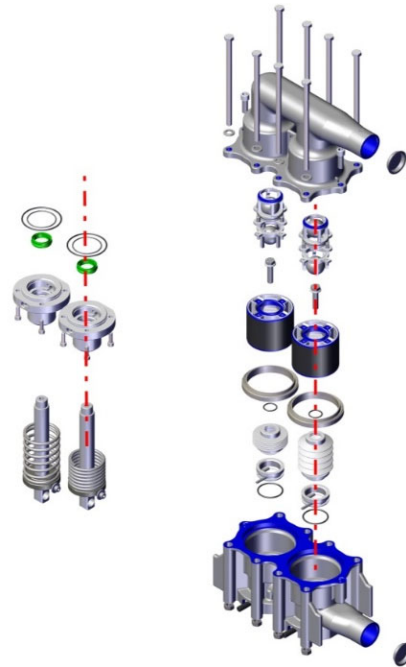

Fig. 10-1: Dismounting the entire pump unit
7. Dismount remaining components according to exploded-view drawing (Fig. 10-1: Dismounting the entire pump unit).